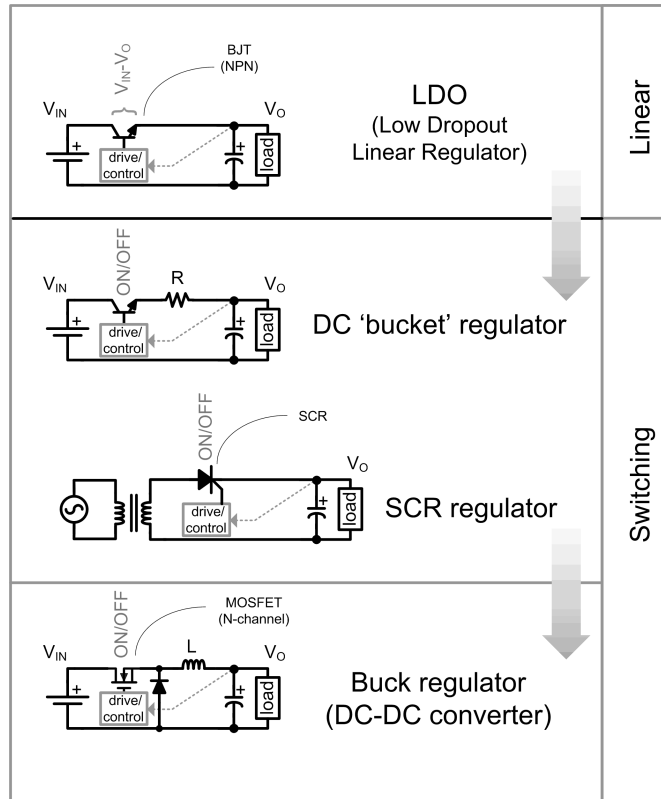

Figure 1-2: Basic Types of Linear and Switching Regulators
‘Linear regulators’, equivalently called ‘series-pass regulators’, or simply ‘series regulators’, also produce a regulated dc output rail from an input rail. But they do this by placing a transistor in series between the input and output. Further, this ‘series-pass transistor’ (or ‘pass-transistor’) is operated in the *linear* region of its voltage-current characteristics — thus acting like a variable *resistance* of sorts. As shown in the uppermost schematic of *Figure 1-2*, this transistor is made to literally “drop” (abandon) the unwanted or “excess” voltage across itself.
Historically, most power supplies used the ‘bjt’ (bipolar junction transistor) shown in *Figure 1-2*. It is admittedly a rather *slow* device by modern standards. But it is still relatively cheap! In fact its ‘npn’ version is even cheaper, and therefore more popular than its ‘pnp’ version. Modern switching supplies prefer to use a ‘mosfet’ (metal oxide semiconductor field effect transistor), often simply called a ‘fet’ (see *Figure 1-2* again). This modern high-speed switching device also comes in several “flavors” — the most commonly used ones being the *n-channel* and *p-channel* types (both usually being the ‘enhancement mode’ variety). The *n-channel mosfet* happens to be the favorite in terms of cost-effectiveness and performance, for most applications. However, sometimes, p-channel devices may be preferred for various reasons — mainly because they usually require simpler drive circuits.
- But as soon as we put in a capacitor, we now also need to limit the *inrush current* into it — all capacitors connected directly across a dc source, will exhibit this uncontrolled inrush — and that can’t be good either for noise, EMI or for efficiency. Of course we could simply opt for a *resistor* to subdue this inrush, and that in fact was the approach behind the early “bucket regulators” (*Figure 1-2*).
But we still need to limit the capacitor *charging current* (‘inrush current’). And as indicated, we could use a resistor. That was in fact, the basic principle behind some early linear-to-switcher “crossover products” like the ‘bucket regulator’ shown in *Figure 1-2*.
The bucket regulator uses a transistor driven like a *switch* (as in modern switching regulators), a small *series resistor* to limit the current (not entirely unlike a linear regulator), and an *output capacitor* (the “bucket”) to store and then provide energy when the switch is OFF. Whenever the output voltage falls below a certain threshold, the switch turns ON, “tops up” the bucket, and then turns OFF. Another version of the bucket regulator uses a cheap low-frequency switch called an SCR (‘semiconductor controlled rectifier’) that works off the secondary windings of a step-down transformer connected to an ac mains supply, as also shown in *Figure 1-2*. Note that in this case, the resistance of the windings (usually) serves as the (only) effective limiting resistance.
So we attempt to use an inductor instead of a resistor for the purpose — we don't really have many other component choices left in our bag! In fact, if we manage to do that, we get our first modern *LC-based switching regulator* — the ‘buck regulator’ (i.e. step-down converter), as also presented in *Figure 1-2*.
Though the detailed functioning of the modern buck regulator of *Figure 1-2* will be explained a little later, we note that besides the obvious replacement of R with an L, it looks very similar to the bucket regulator — *except for a “mysterious” diode*. The basic principles of power conversion will in fact become clear only *when we realize the purpose of this diode*. This component goes by several names — ‘catch diode’, ‘freewheeling diode’, ‘commutation diode’ ‘output diode’ to name a few! But its basic purpose is always the same — a purpose we will soon learn is intricately related to the behavior of the *inductor* itself.